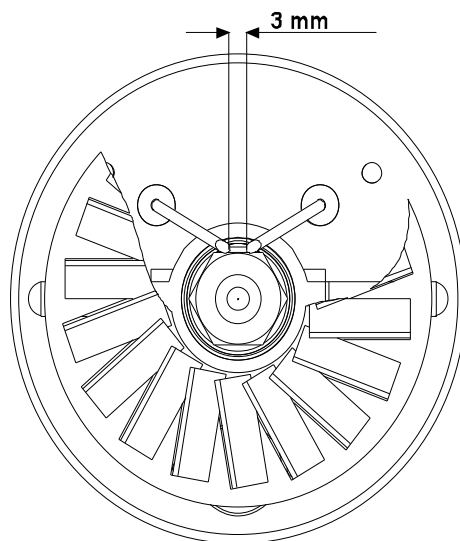

Figure 5-10 – Ignition Electrode Gap Adjustments
2. Using a feeler gauge ensure the electrode tips are set at 3mm centered on the nozzle (59) as shown in Figure 5-10. If required, electrode tips may be adjusted by hand.